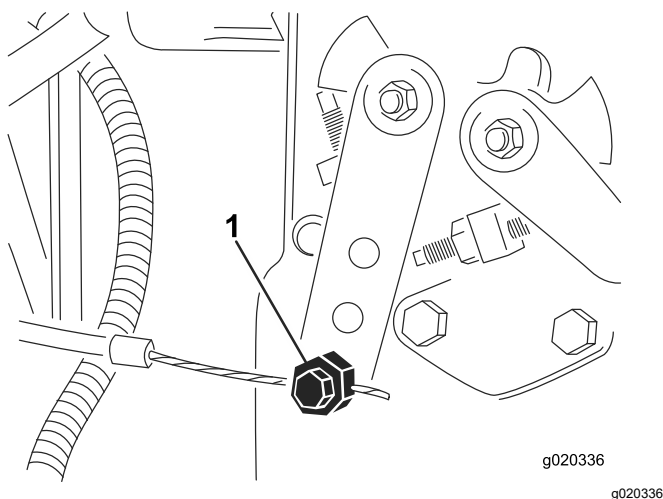

Figure 78
3. Loosen the throttle cable connector on the injection pump lever arm (Figure 78).